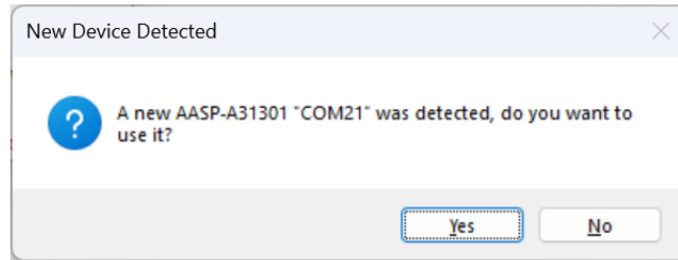

Figure 3: New Device Detected Dialog
4. A window may appear that looks like the one in Figure 3.